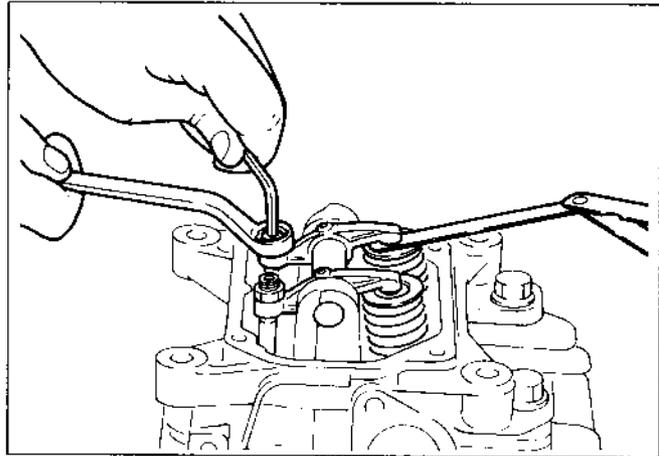

Fig.54
- (2) Loosen lock nut on rocker arm and turn adjusting screw to adjust the clearance between rocker arm and valve stem end. (See Fig. 54.)